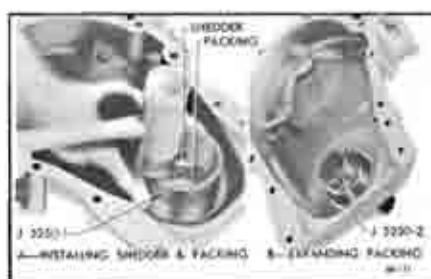

Figure 60-151—Installing Crankshaft Oil Seal
2. Work new packing into the shedder, then drive shedder into recess in timing chain cover, using Installer J-5250-1. See Figure 60-151, View A.
3. Push Packing Expander J-5250-2 through the seal to expand the packing into place and size the opening for the crankshaft. See Figure 60-151, View B. Apply a light coat of vaseline to the packing.